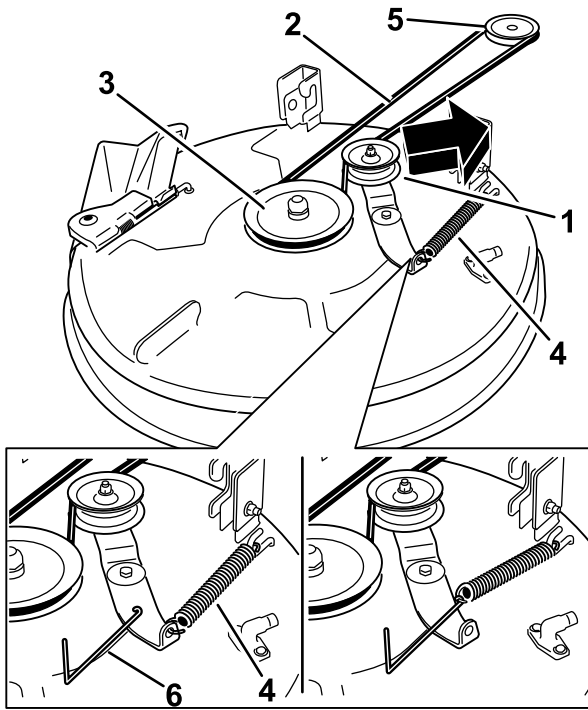
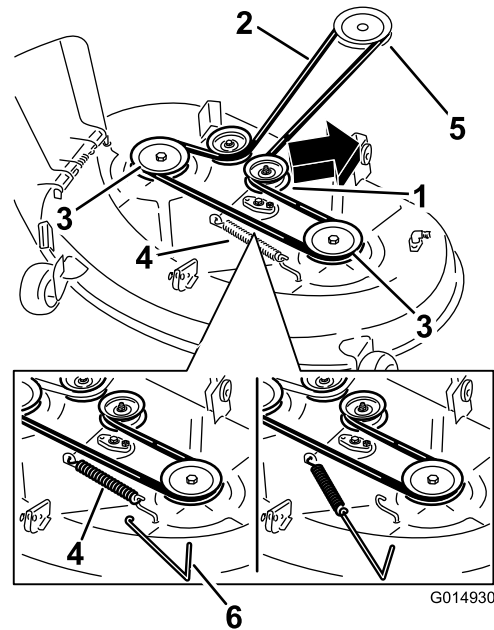

Figure 53
Figure 54
6. Using a spring-removal tool (Toro Part No. 92-5771), remove the idler spring from the deck hook to remove tension on the idler pulley, and roll the belt off the pulleys (Figure 53 and Figure 54).
7. Route the new belt around the engine pulley and mower pulleys (Figure 53 and Figure 54).
8. Using a spring-removal tool (Toro Part No. 92-5771), install the idler spring over the deck hook and place tension on the idler pulley and the mower belt (Figure 53 and Figure 54).